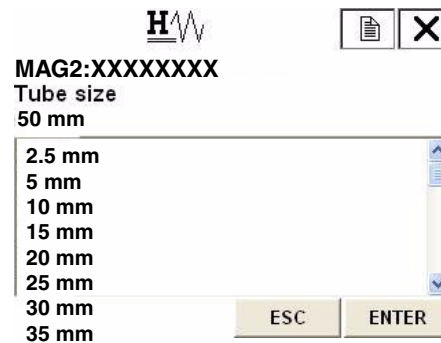

Figure 77.
- Figure 77 is then displayed.
2. Once the display as shown in Figure 77 appears, move the arrow key up or down to select a flowtube diameter. After making a selection, press F4 (ENTER). If F3 (ESC) is pressed here, the selection is canceled and the display returns to the flowtube config menu.